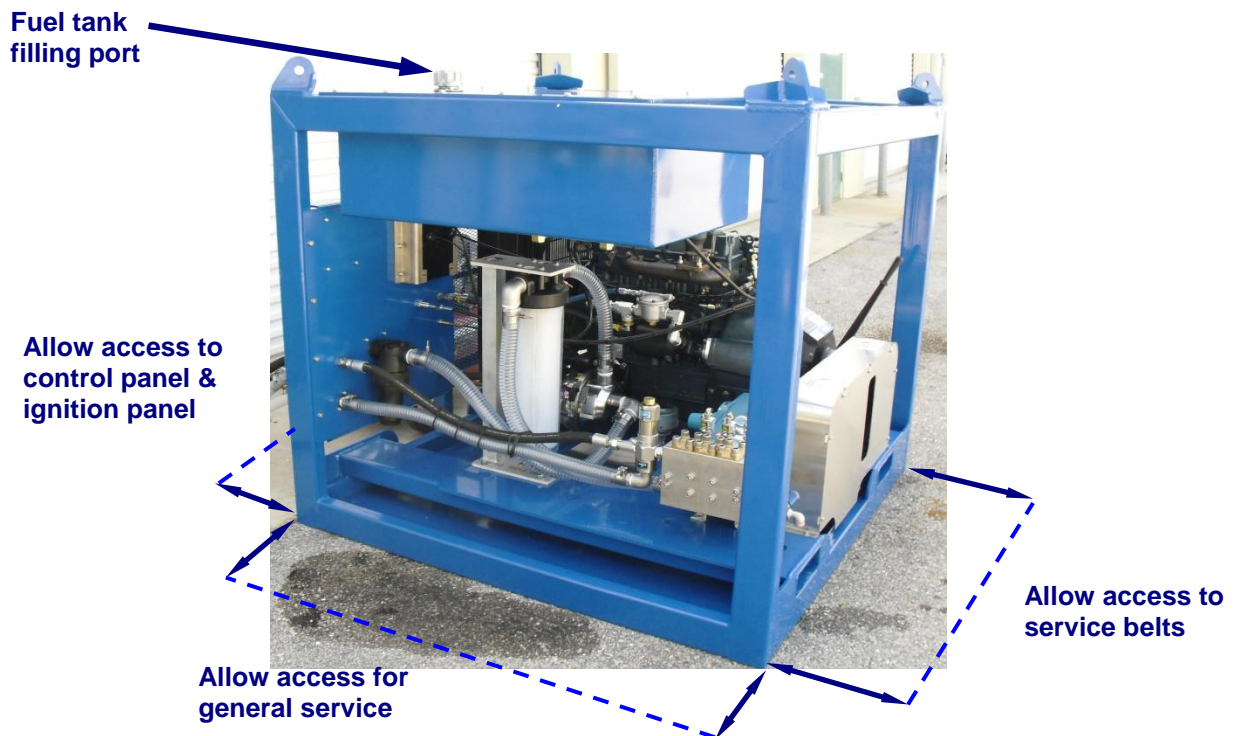

Figure 4.2 – Installation Guidelines
| Figure 4.2 – Installation Guidelines | 14 |
*** Enclosed installations will require provisions for adequate engine cooling air flow and for venting of engine exhaust. See Figure 4.2 below.**